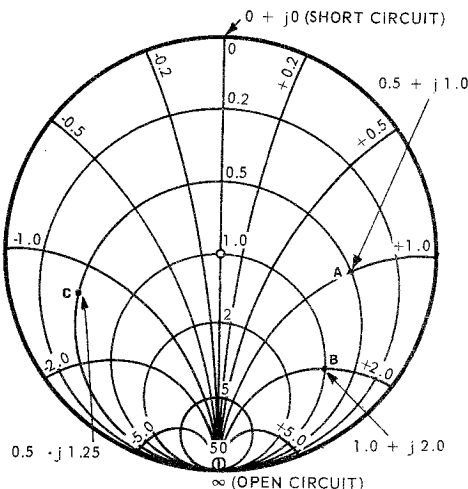

FIG. 4.
This impedance is plotted at the point of intersection of the 0.5 resistance circle and the +1.0 reactance circle. (Point A in Fig. 4).
- (ii) When prime centre = 50 ohms, the same impedance ( $50 + j100$ ) is plotted at the intersection of the 1.0 resistance circle and the +2.0 reactance circle, that is, at  $1 + j2$ . (Point B in Fig. 4).
- (iii) With a resistance of 300 ohms in series with 750 ohms capacitive reactance (assuming prime centre = 600 ohms), the impedance of  $300 - j750$  ohms is plotted at  $0.5 - j1.25$ . (Point C in Fig. 4).